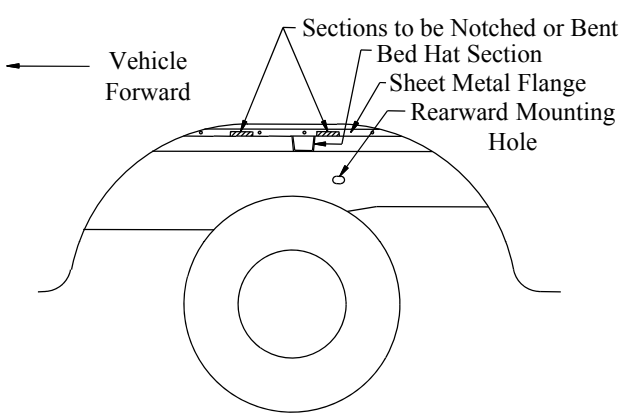
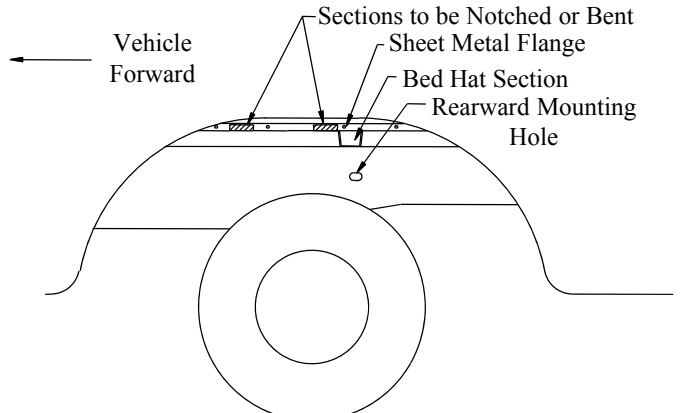

Figure 4a
Figure 4b
- 3b. **Placing Cross Members Between Bed And Frame, Method 2: Notch the Side Flange:** From the driver's side wheel well, notch the sheet metal flange as shown in Figure 4a for 6' beds and Figure 4b for 8' beds. After notching, the cut steel surfaces should be touched up with paint to prevent rusting.